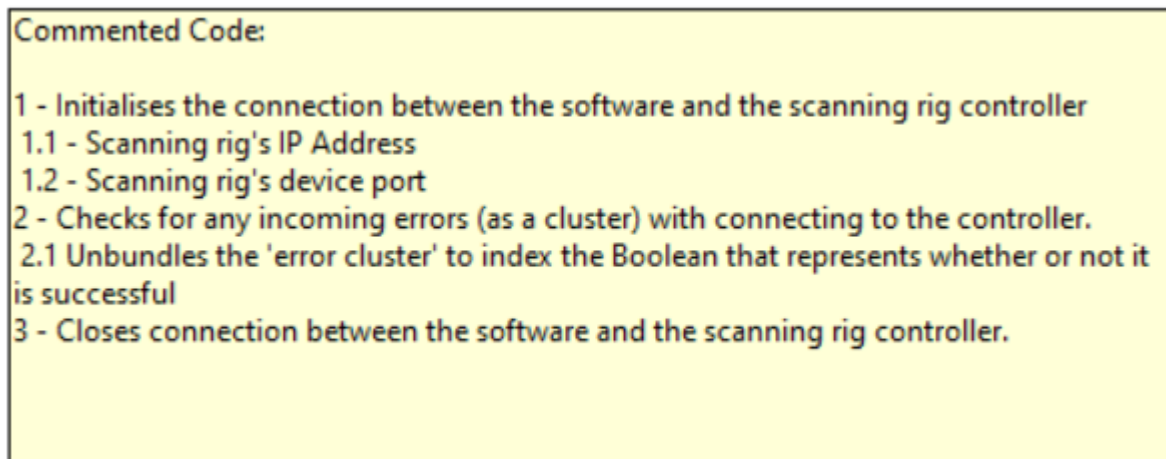

Figure 4 - Example of the commenting available with every block diagram
- On top of the individual descriptions, each block diagram is fully commented (example: figure 4)